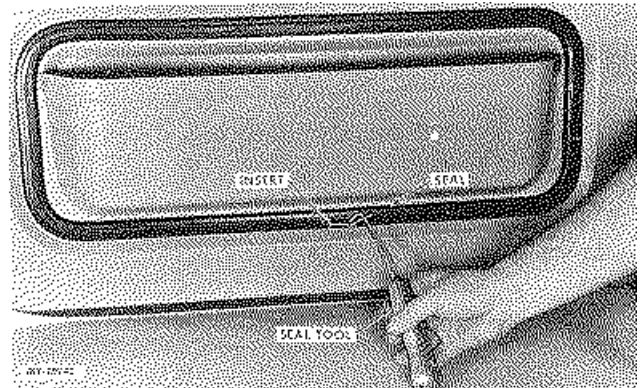

Fig. 10 Removing Access Panel From Door
2. Remove rubber insert from around door access cover. Use blunt nose screwdriver or seal tool as shown (Fig. 10). Lift out cover and remove seal from access opening.